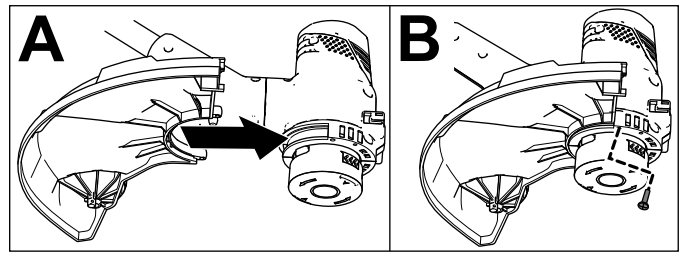

Figure 4
1. Remove the 2 Phillips screws that are taped to the guard and slide the guard onto the trimmer base (A of Figure 4).
2. Secure the guard onto the base of the trimmer with the 2 Phillips screws (B of Figure 4).